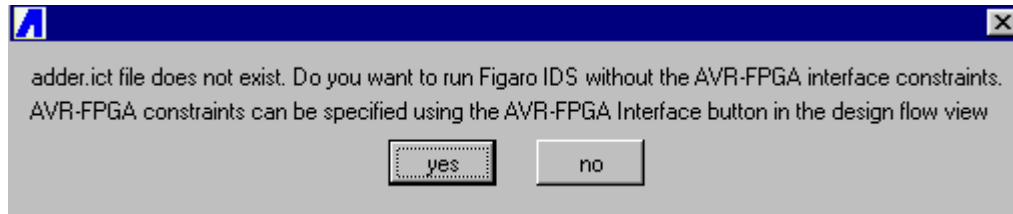

Figure 31 AVR-FPGA Constraints
3. Select **adder.edf** and press **OK**. A dialog to run IDS without the AVR-FPGA constraints appears, see **Figure 31**.